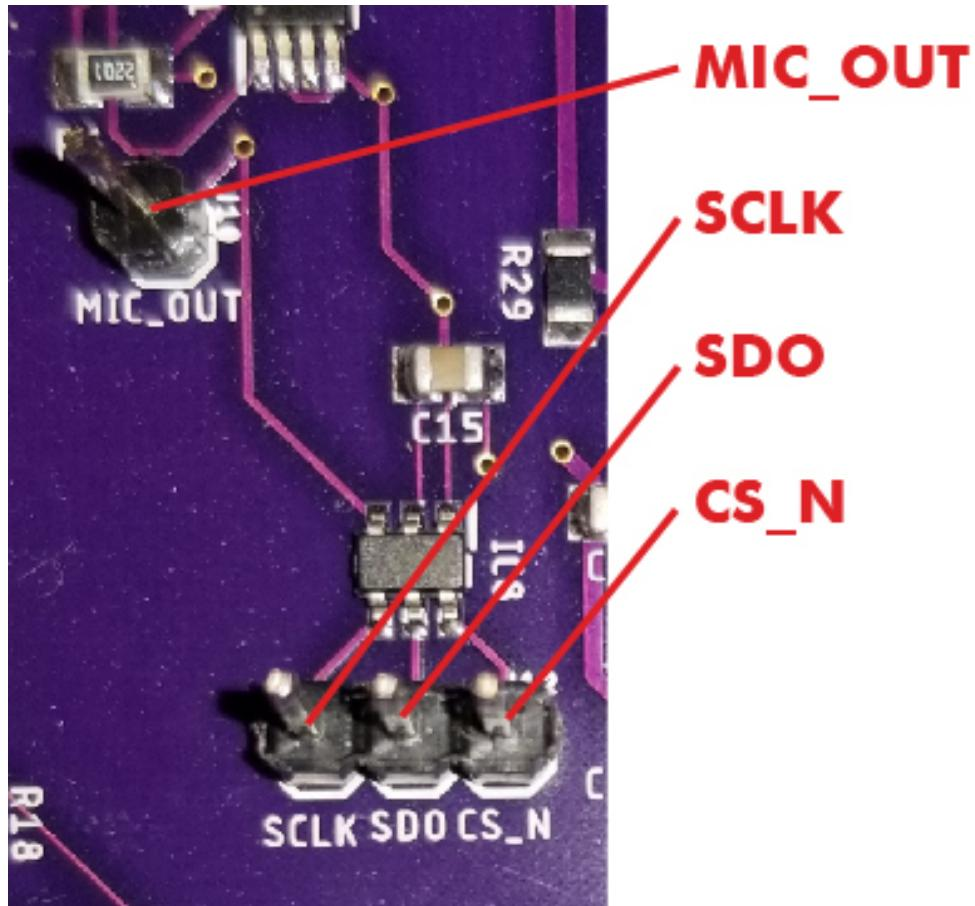

Figure 2.4: External ADC on hardware
3.3V. The analog signal is on the node labeled MIC_OUT and is directly wired the output of the instrumentation amplifier of the microphone. The input is also addressable from the labeled header pin (See Figure 2.4).
Figure 2.4 shows the related schematic. Table 2.4 shows the pin assignment.